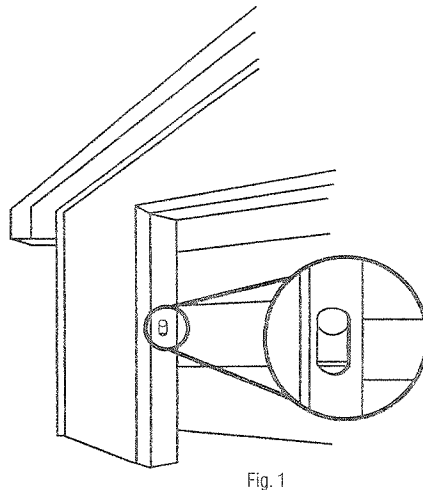

Fig. 1
1. **Outside:** Choose a convenient location to mount the keypad. (fig. 1) Drill a 1/2" hole from outside to inside the garage. Carefully, feed cable from keypad to inside of garage. Screw keypad to outside surface with 2 screws (included). Do not over tighten. The keypad is meant to "stand off" the surface so moisture can run behind the keypad.